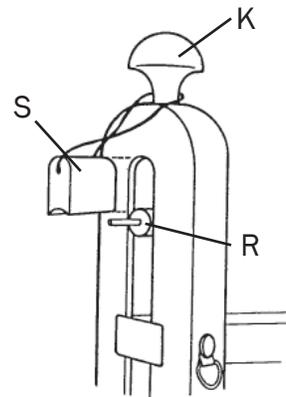

Figure 3
2. When you are spinning leave the cart wheels off. When you are going to go somewhere, be sure to also install the handle stop (S) as illustrated in Figure 3.